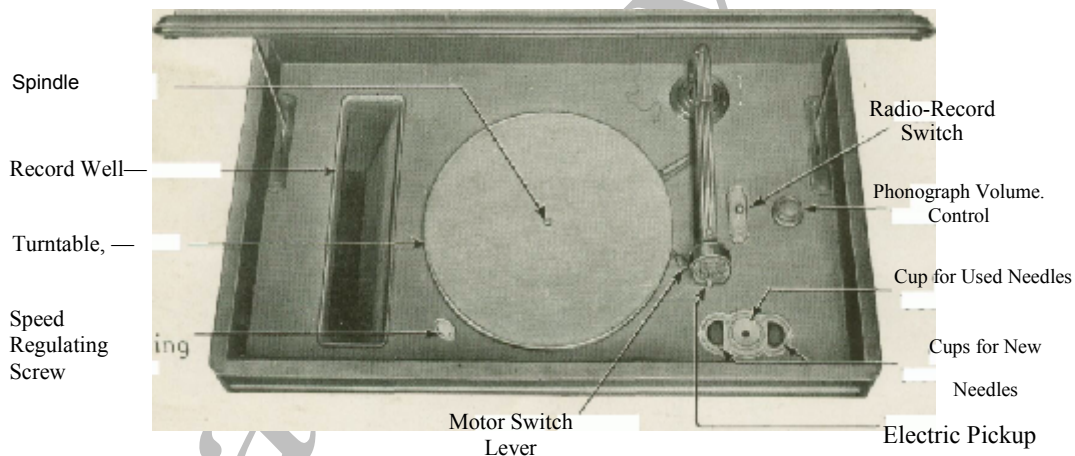

Fig. 5. RCA Radiola 47—Showing Phonograph Compartment
2. Remove the tape used to secure the electric pickup (Fig. 5).
**Turntable**—Swing the electric pickup to the extreme right and pull the Motor Switch Lever forward (see Fig. 5). Hold the turntable in both hands, and carefully lower it over the spindle. Make certain that the pin in the spindle is engaged with the slot in the turntable hub.
**Cup for Used Needles**—Insert the cup for used needles in the hole between the two cups for new needles, and attach the cover (see Fig. 5).
1. Set the Radio-Record Switch to "RADIO" (see Fig. 5).
Refer to Fig. 5 and proceed as follows:
**Record a**—The records should usually be kept in the envelopes. Those in constant use, up to 30, may be stored (without the envelopes) in the record well which is provided in the cabinet (see Fig. 5).